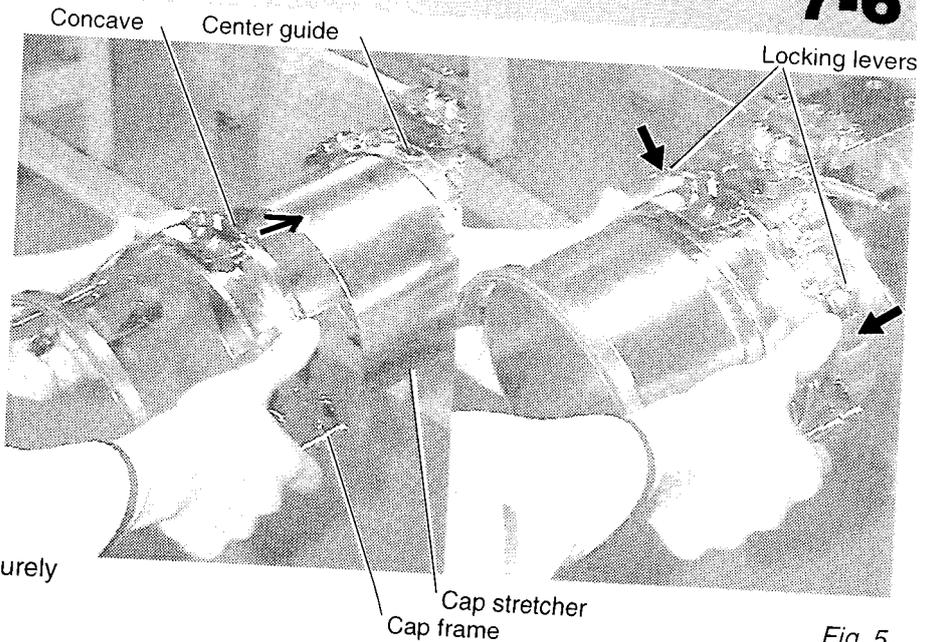

Fig. 5
2. As shown in Fig. 5, hold cap frame with both hands and place on cap stretcher. By pushing locking levers at 2 places with fingers, place cap frame so that center guide of cap stretcher fits in concave area of cap frame.
8. As shown in Fig. 5, place cap hold frame with cap on cap drive frame assembly of embroidery machine. By pushing holder lever at 3 places in arrow marks with fingers, place cap hold frame with cap on so that center guide of drive frame assembly gets in concave of upper cap hold frame.